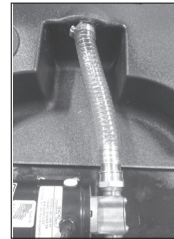

Figure 2
- b. If drain port is 1": Attach 1" ID x 9" hose [7] fitting to pump inlet port, tighten with adjustable wrench (Figure 2). Place hose clamp from step 2 onto hose. Insert the hose over the drain port. Tighten clamp with flat head screwdriver.